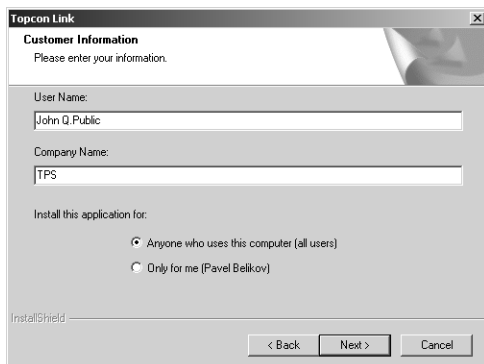

Figure 1-2. Enter Customer Information
4. On the Customer Information dialog box, enter the User and Company names, then click **Next** (Figure 1-2).